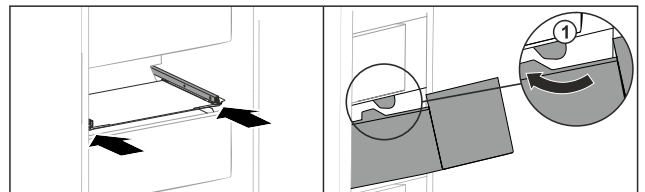

Fig. 218
- ▶ Guide drawer around the stoppers *Fig. 218 (1)*.